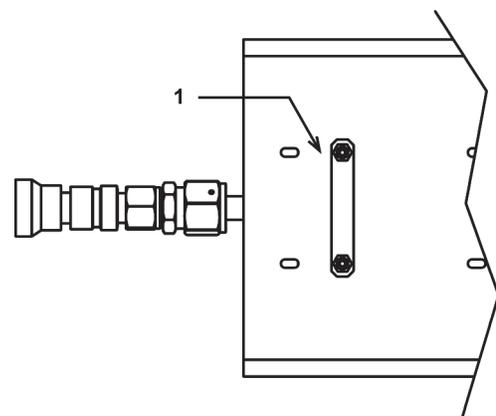

Figure 2. molstic-S Nut Plate
- 5 Place the flat side of the 60 mm nut plate under the molstic-S platform (See Figure 2). Align it with the holes in the platform and the regulator bracket. Hold it in place.